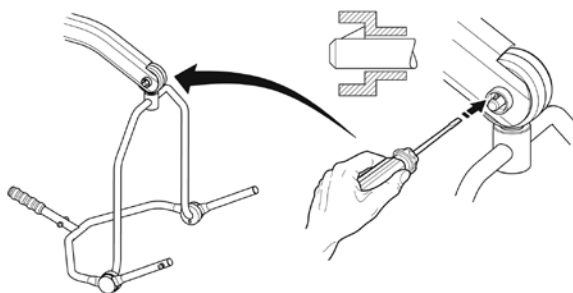

Fig. 1
1. To detach pin, depress the spring bar (Fig. 1 and 2).